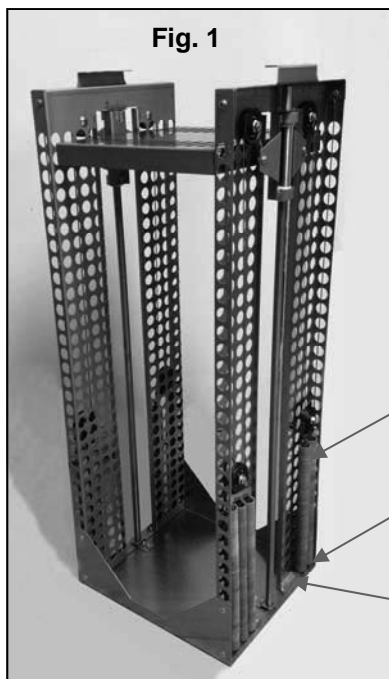

Fig. 1
- 2) If you intend to hold bases, then make sure all 9 springs are attached as shown in Fig. 1.